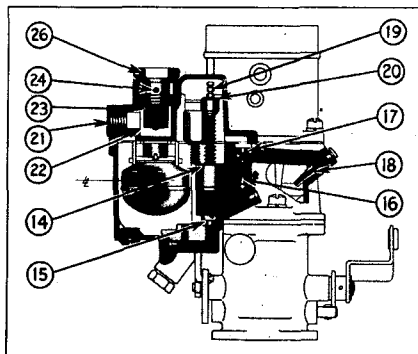

Figure 2
To clean the filter (see Fig. 2), remove the filter head (26) and element (23). The sump (22) may then be cleaned with a small cloth. The channel must be covered so that no dirt or water from the sump is wiped into it during the cleaning operation. Remove the element from the head. This allows the individual washers to be slightly separated from each other. Wash the element in gasoline. If the accumulated dirt is gummy, a brushing in gasoline will loosen it. Every particle of dirt may then be blown off with compressed air. It is important that only moderate air pressure is used in the cleaning operation. The element and head may then be reassembled in the carburetor.